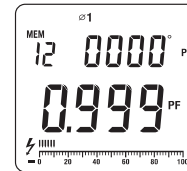

Figure 20
4. When measuring 3 phase 4 wires: (see figure 20, 21, 22)
- Press **SELECT** to choose the first phase Ø1, see figure 20.